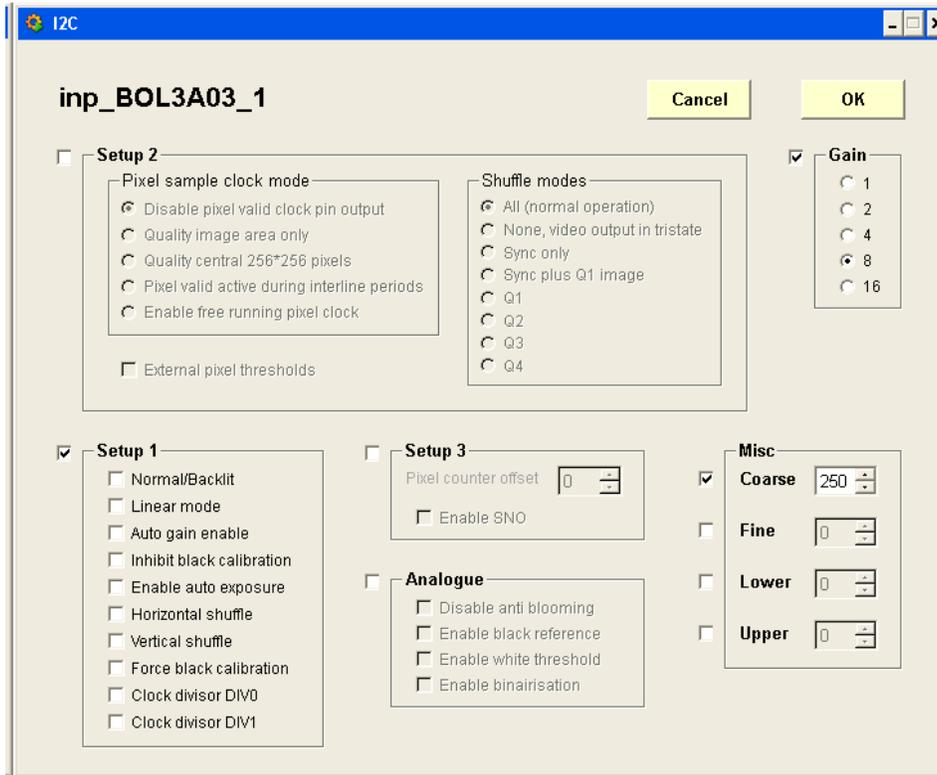

Figure 2.10: I2C camera settings
13. *I2C*: The camera contains a lot of optical settings, managed by the I2C electronics bus. Figure 2.10 shows the possible settings.